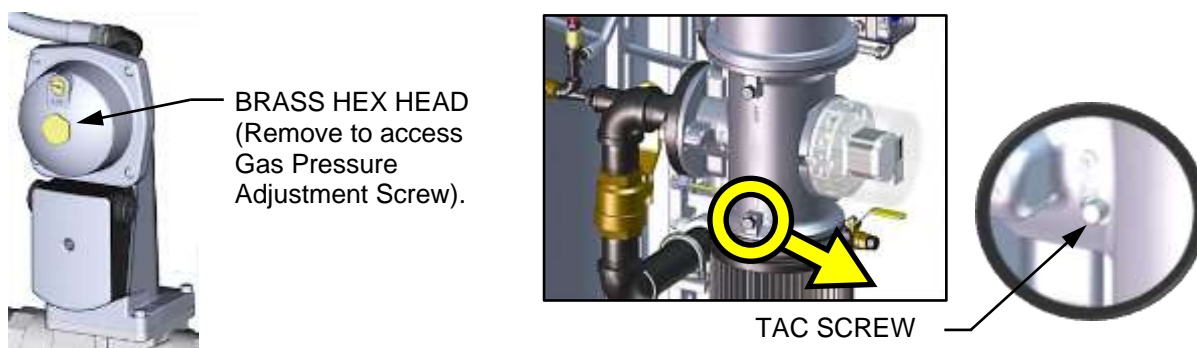

Figure 4-3: Gas Pressure Adjustment Screw and TAC Screw Location
14. Next, verify that the gas pressure downstream of the SSOV is within the range in Table 4-1, for the model you are calibrating. If gas pressure adjustment is required, remove the brass hex nut on the SSOV actuator to access the gas pressure adjustment screw (Figure 4-3). Make gas pressure adjustments using a flat-tip screwdriver to obtain a gas pressure in the range specified in Table 4-1.
26. With the valve position at 100%, if the oxygen level is not within the required tolerance after adjusting the blower voltage, then the gas pressure on the downstream side of the SSOV must be adjusted using the gas pressure adjustment screw on the SSOV (Figure 4-3). Slowly rotate the gas pressure adjustment in 1/4-turn increments, clockwise to reduce O₂ level or counterclockwise to increase it. Allow the combustion analyzer to stabilize following each adjustment.
30. If the oxygen level at the 18% valve position is too high and the Blower voltage is at the minimum value, you can adjust the TAC screw, which is recessed in the top of the Air/Fuel Valve (see Figure 4-3). Rotate the screw 1/2 turn **clockwise (CW) to add fuel and reduce the O₂** to the specified level. Recalibration *MUST* be performed again from 50% down to the lowest valve position after making a change to the TAC screw.
14. Next, verify that the gas pressure downstream of the SSOV is within the range in Table 4-4 for the model you are calibrating. If gas pressure adjustment is required, remove the brass hex nut on the SSOV actuator to access the gas pressure adjustment screw (Figure 4-3). Make gas pressure adjustments using a flat-tip screwdriver to obtain a gas pressure approximately shown in Table 4-4.
26. With the valve position at 100%, if the oxygen level is not within the required tolerance after adjusting the blower voltage, then the gas pressure on the downstream side of the SSOV must be adjusted using the gas pressure adjustment screw on the SSOV (Figure 4-3). Slowly rotate the gas pressure adjustment in 1/4-turn increments, **clockwise to reduce O₂ level** or **counterclockwise to increase** it. Allow the combustion analyzer to stabilize following each adjustment.